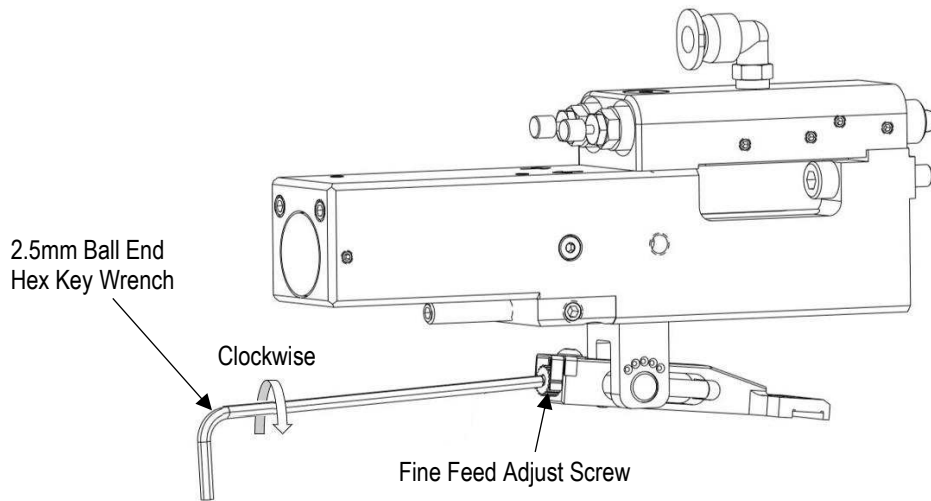

Figure 18
- (1) Remove the air supply from the module.
- (2) Manually feed the terminal by fully extending the feed and then fully retracting the feed until a terminal is over the anvil.
- (3) If the terminal position is left of the anvil (under-fed), turn the Fine Feed Adjust Screw clockwise to move the terminal to the right of the anvil (see Figure 18).